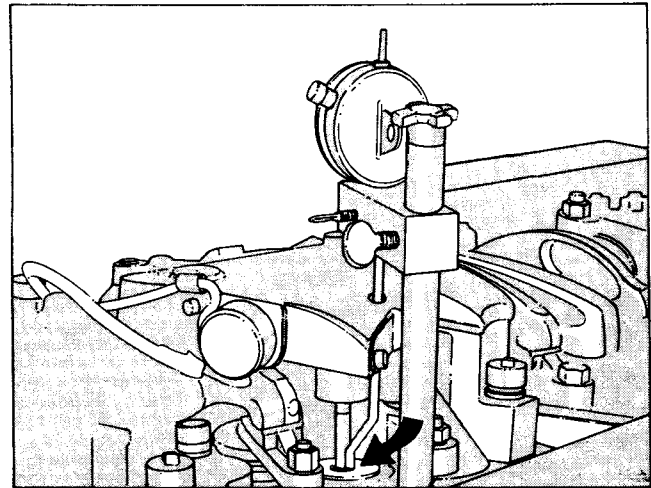

Fig. 2-53, (OM1061L). Dial indicator in place — extension in contact with plunger
**Note:** The injector and valves on any one (1) cylinder can not be set at the same valve set position. Example: If the rocker levers on No. 3 cylinder are free (valves closed) the injector plunger travel on No. 6 cylinder is a starting point. See Table 2-18.
2. Install 3375004 Dial Indicator Assembly to the rocker housing, (3375005) extension must go through the opening in the Jacobs Brake housing and contact the injector plunger top, Fig. 2-53.
3. Screw the injector lever adjusting screw down until the plunger is bottomed in the cup, back off approximately 1/2 turn then bottom again, set the dial indicator at zero (0).